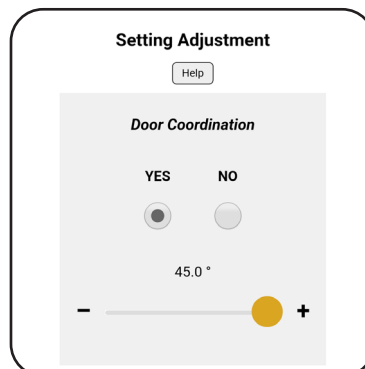

Figure 45
- Door Coordination = **Yes** or **No** (Figure 45)